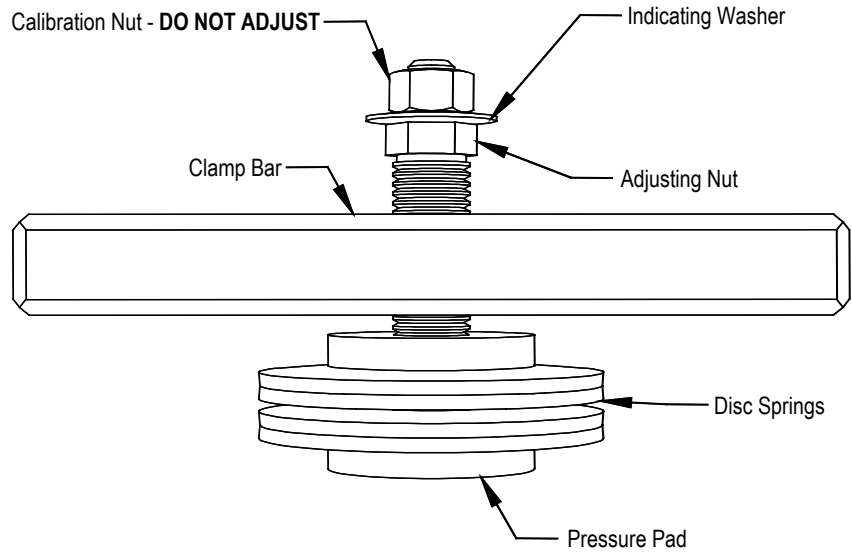

Figure 6.18 – Clamp Head Illustration
Never rotate the calibration nut located outside the indicating washer at the end of the threaded rod. The rotation of the outer nut will affect the torque calibration, which is factory set. Only adjust the inside nut. (See Figures 6.18 and 6.19.)
3. The heatsink with the thermal sensor must be removed from the PowerCage. Remove clamp load (refer to Figure 6.18).